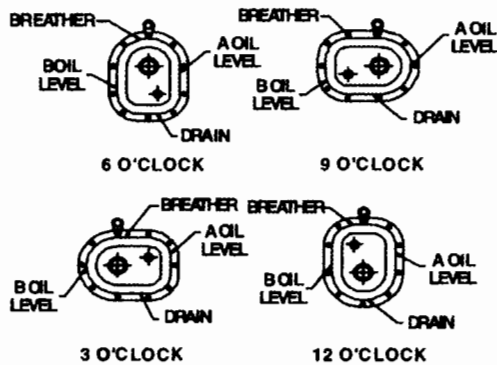

FIGURE 3-1
3.1.1 Figure 3-1 shows the breather, magnetic drain and oil level plug locations for the four standard mounting positions. The breather is installed in the fill hole in the top and the magnetic drain plug is installed in the bottom of the reducer in its relative position. Use oil level "A" for speeds at or below those shown in Table No. 3-1 Use oil level "B" for speeds above those shown in Table No. 3-1. For reducers mounted in other positions, refer to steps 3.1.4 or 3.2.
3.1.3 Refer to LUBRICATION SPECIFICATIONS SECTION for the proper viscosity of oil. Remove the oil plug and breather. Fill with oil until it begins to run out the oil level hole. Replace the oil level plug and install breather as shown in Figure 3-1.
3.1.4 Operating positions may vary as much as 10° from the four positions shown in Figure 3-1 and still have adequate oil by using the indicated oil levels. If it is necessary to vary the operating position less than 10° from these positions, complete the following steps. For reducers operating more than 10° from standard position, contact the EPT Technical Service Department.